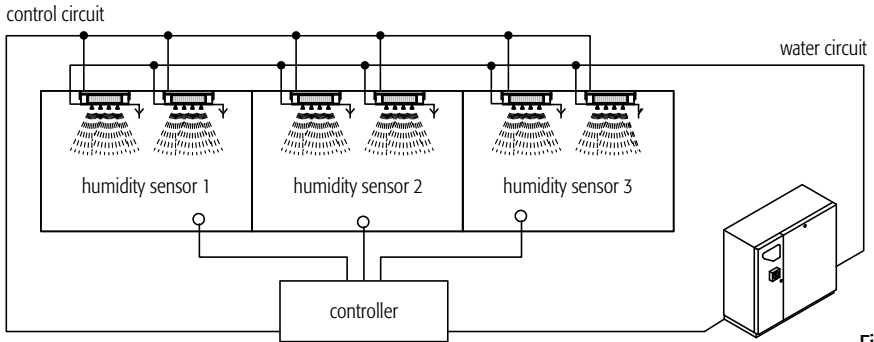

Fig. 1
- there must be at least 1 line without on-off solenoid valves, that is, that must start with a DLXXSDI0X0 unit (see further on). Fig. 1 shows this as STEP 1.